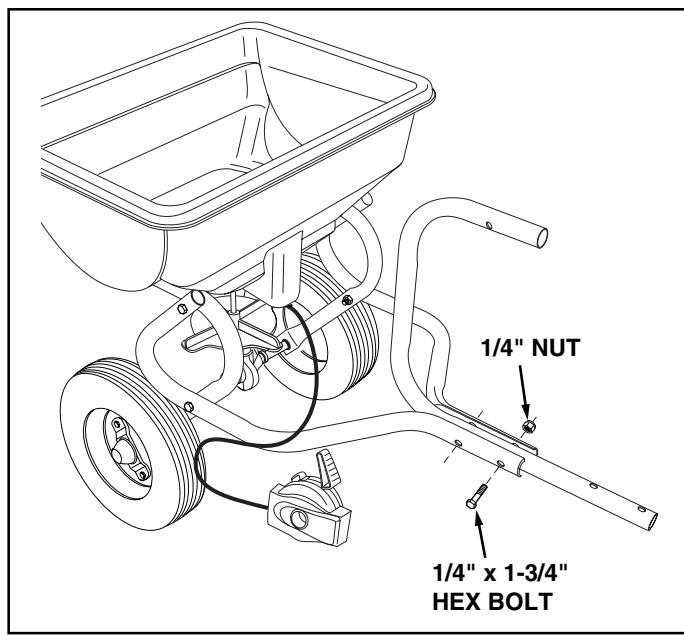

FIGURE 2
3. Assemble the Hitch Control Tube between the Hitch Tubes using two 1/4" x 1-3/4" hex bolts and 1/4" nuts. **Tighten all** bolts and nuts . See figure 2.